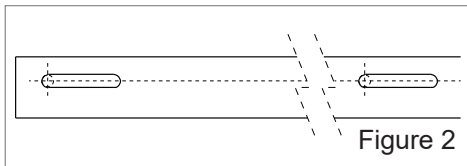

Figure 2
3. Adjust the placement of the hanger for a 1" gap between the top of the door and the bottom of the wheel. Ensure the side of the hanger at the top of the door is resting 2" from the edge of the door (Figure 2).
4. Mark the center of each installation hole with a pencil (Figure 2).
5. Mark an intersecting line inside each slotted hole wherever they work best for your wall considering stud locations (Figure 2).